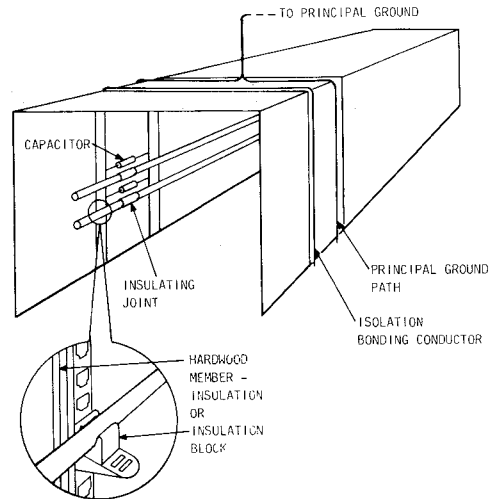

Fig. 1—Horizontal Entry (Location of Insulating Joint)
2.01 The insulating joint should be located in a straight portion of the cable where it will not be subject to bending stress. In vaults having horizontal cable entry (Fig. 1), make the joints as close as practical to the second upright from the duct entrance to allow as much straight cable as possible between the bend at the first vertical and insulating joint.